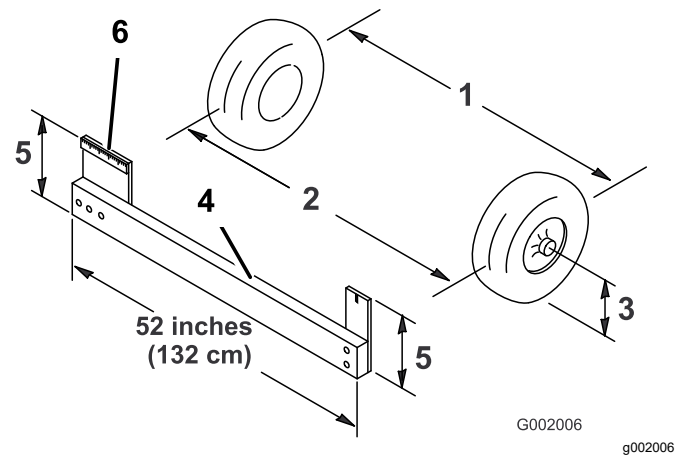

Figure 45
4. Measure the distance between both the front tires at the axle height at both the front and rear of the front tires (Figure 45).
Note: You will need a fixture or alignment gauge for measuring the rear of the front tires at axle height. Use the same fixture or alignment gauge to accurately measure the front of the front tires at axle height (Figure 45).